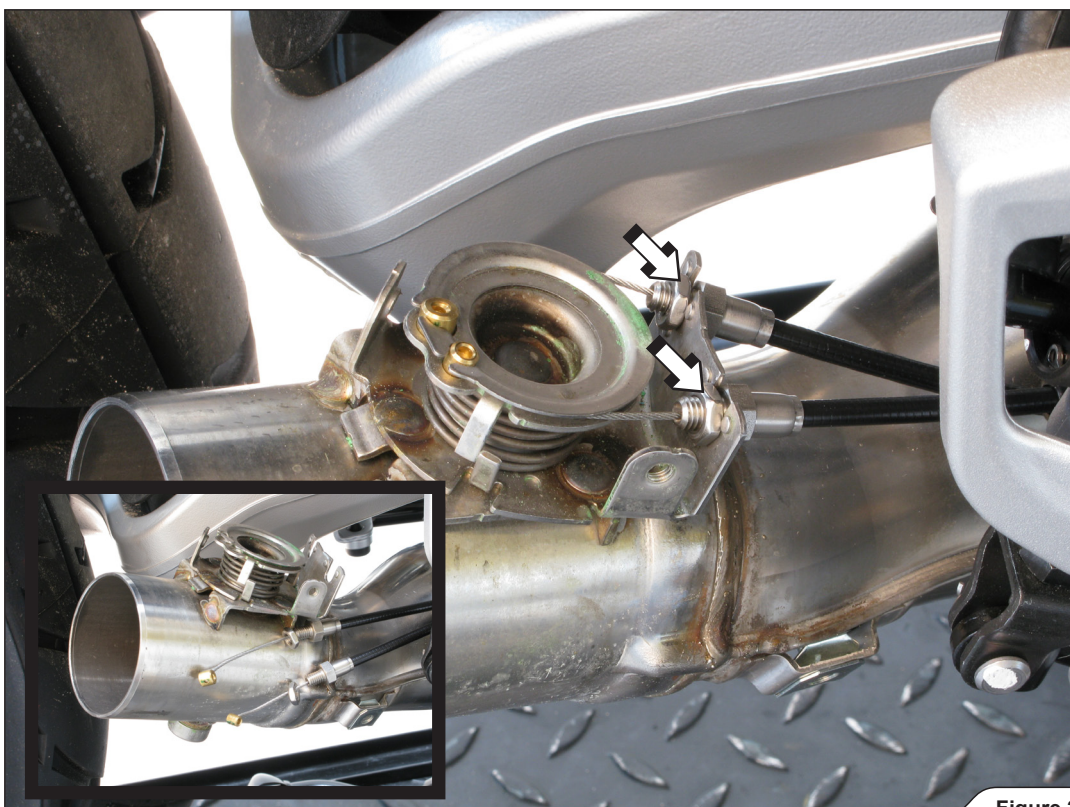

Figure 2
3. Unscrew the marked cable nuts and remove the cables off the valve (Figure 2).